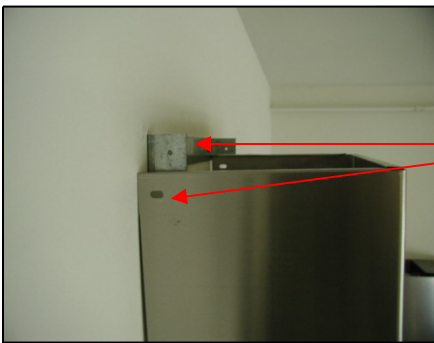

Figure 29
7. Adjust the height of the inner duct cover to the duct cover-mounting bracket. Secure the inner duct cover with two (4x8 mm) screws (provided) as shown in Figure 29.